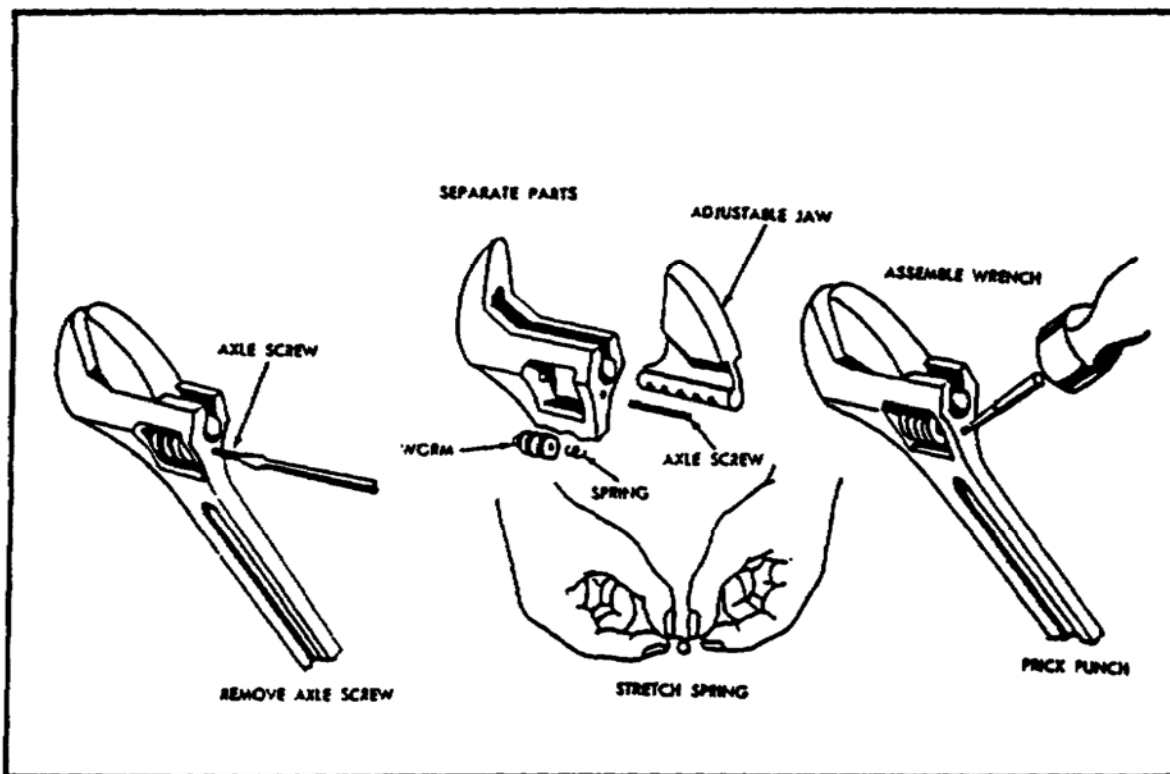

FIGURE 32. ADJUSTING FOR PLAY IN ADJUSTABLE WRENCH.
(3) *Adjustment for Play.* The movable jaw on adjustable open-end wrenches may not remain parallel to the stationary jaw after prolonged use. In most cases, the trouble is due to wear and to the worm spring having weakened. To increase spring resiliency, remove the axle screw from the wrench and separate the adjustable jaw, worm, and worm spring from the handle (figure 32). Stretch the worm spring if the spring is not cracked and is in good condition. Stretching the spring will increase its tension and help keep the adjustable jaw from tipping. Reassemble the wrench and prick punch the wrench adjacent to the tightened axle screw to lock it in position.